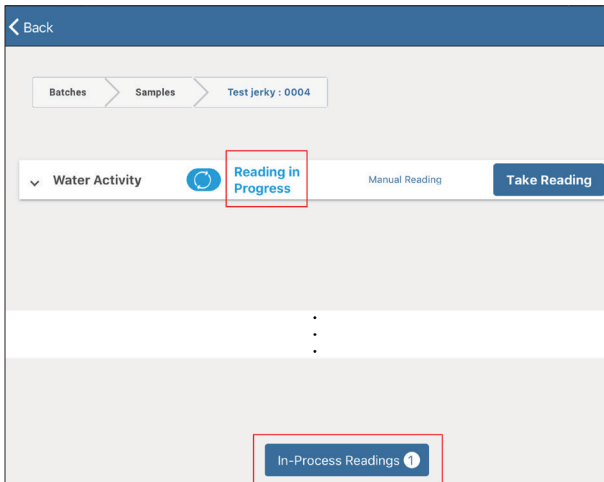

Figure 69 Reading in progress indicator
11. Select the **In-Progress Readings** button at the bottom of the Readings screen to see the In-Progress Readings dialog window with the reading status (Figure 69).